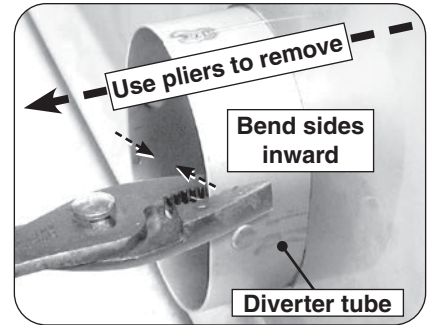
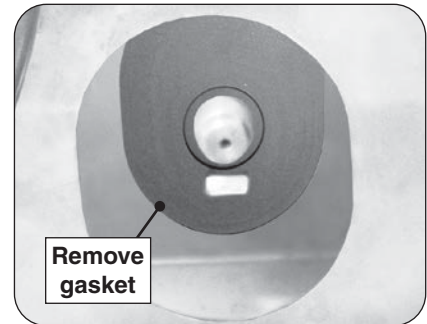

Fig. 2-1 Remove diverter tube
Fig. 2-2 Remove silicone gasket
nut driver (see Fig. 2-2).
6. **The grill is equipped with a flame arrester kit for each main burner. This kit is only functional with the standard main burner, and must be removed for proper infrared burner operation.** Use pliers to remove the diverter tube by bending in each side and pulling it outwards (see Fig. 2-1), then reach in and remove the silicone gasket (see Fig. 2-2).